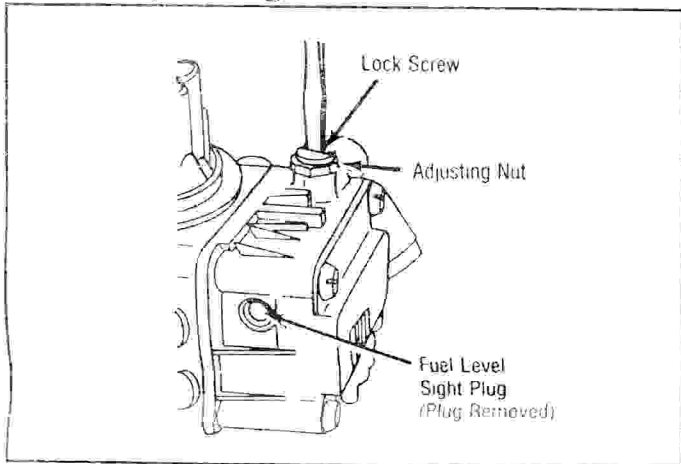

Fig. 15 Fuel Level Adjustment (Wet Setting)
2. Stop engine and remove sight plug from primary float bowl. Fuel level should be even with base of sight plug hole (plus or minus 1/32"). See Fig. 15.